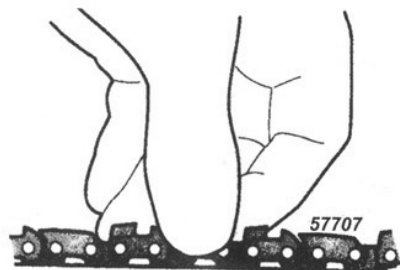

Figure 21
4. Pull the chain by hand along the top of the guide bar several times from the engine to the bar's tip. The chain should feel snug but still pull freely. See Figure 21.